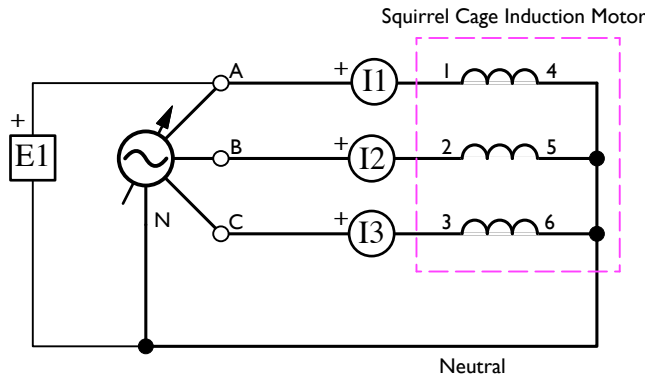

Figure 4.15: Three-Phase Motor – Three Phases
- 25. **Remove the belt** that couples the three-phase squirrel cage induction motor to the dynamometer, and construct the circuit shown in Figure 4.15.